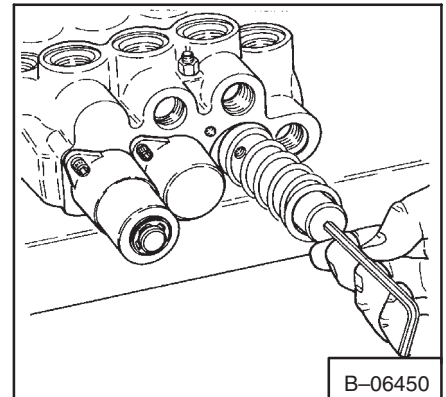

Fig. 2-33a Centering Spring Bolt
14. Use an allen wrench to remove the bolt which hold the centering spring to the lift spool (Fig. 2-33a).